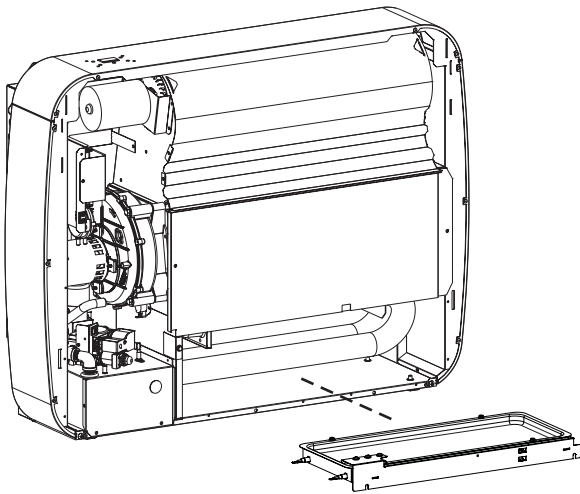

Figure 4
- Retrieve the heated tray assembly and insert it into the bottom of the wall furnace's heat exchanger compartment. Make sure not to pinch any wires. See **Figure 4**.